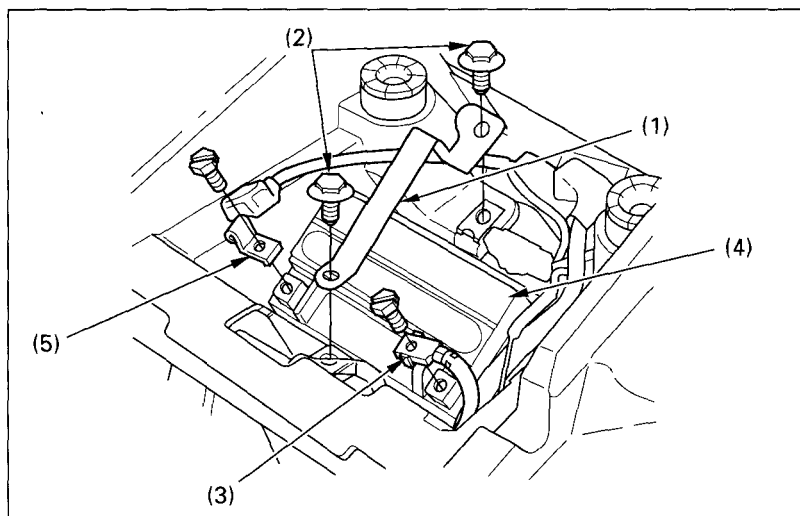

Fig. 4-17
3. Remove the battery holder ( 1 ), (Fig. 4-17) by removing the mount bolts ( 2 ).